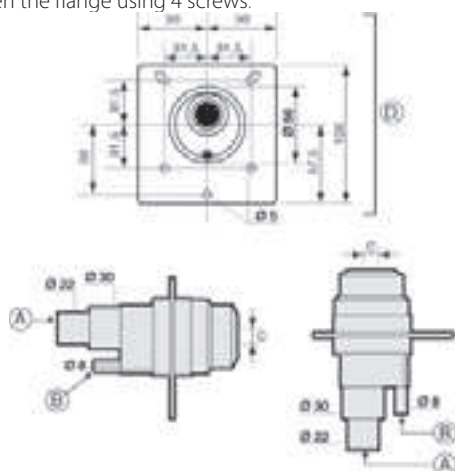

Fig. 3.b
In addition, the distributor must be installed in a part of the steam bath that is easily reached by the hoses running from the humidifier (see Fig. 3.a as an installation example).
**Assembly instructions (see Fig.3.b):**